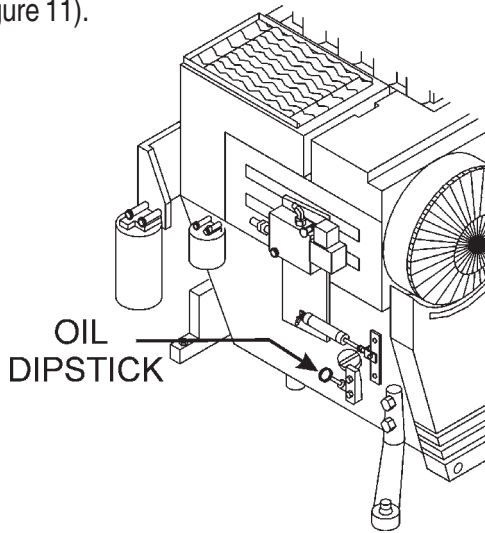

Figure 11. Engine Oil Dipstick
- Remove the engine oil dipstick from its holder (Figure 11).